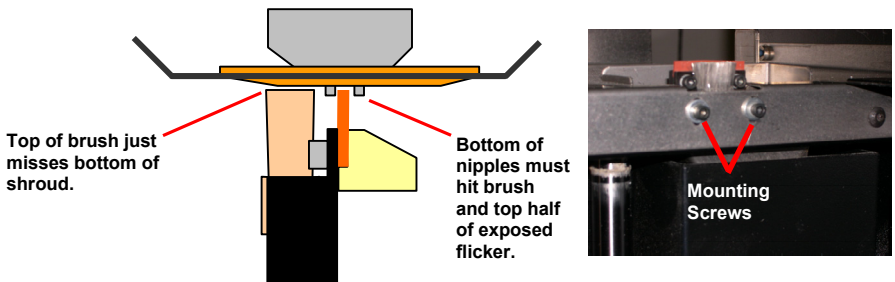

Figure 12. Replacing the tip cleaning brush
5. Remove the old tip cleaning brush by loosening the two mounting screws (See Figure 12 below) and pulling up on the brush.
8. Adjust the tip cleaning assembly until the brush just touches the tips but just misses the bottom of the tip shroud (see Figure 12) and tighten mounting screws.